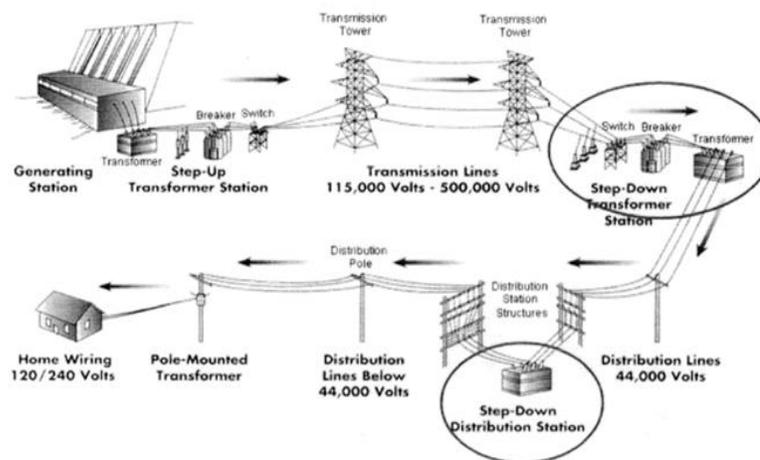

Figure 1. Role of Transmission Line and Transformer Station in Power Delivery to Customers
Electricity is produced at nuclear, fossil fuel, gas and hydroelectric generating stations and at wind generation or other industrial facilities throughout the Province of Ontario. Hydro One operates a network of transmission lines in Ontario, which transmit the electricity over great distances at high voltage (i.e. 115 kV, 230 kV, 500 kV in Ontario) to local transformer stations. There are approximately 280 of these local TS' located throughout the Province of Ontario. The TS' role is to transform the high voltage power input to a lower voltage output that is usable by the energy customers (i.e. large industrial customers and distribution companies). The local distribution companies (LDCs) then supply other customers (i.e. residential and commercial) through the use of smaller distribution stations (DS), pole mounted transformers and pad mounted transformers. This sequence of electricity generation, transmission and transformation to a usable power supply by customers is illustrated in Figure 1.